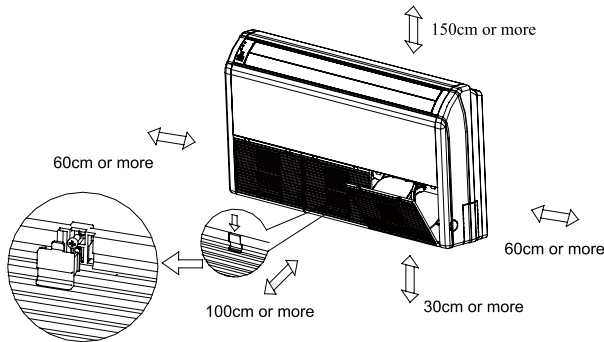

Fig.41
- ① . Such a place where cool air can be distributed throughout the room.
- ② . Such a place where condensation water is easily drained out.
- ③ . Such a place that can handle the weight of indoor unit.
- ④ . Such a place which has easy access for maintenance.
- ⑤ . Such a place where is easy to connect the outdoor unit.
- ⑥ . Such a place which is 1m or more away from other electric appliances such as television, audio device, etc.
- ⑦ . Avoid a location where there is heat source, high humidity or inflammable gas.
- ⑧ . Do not use the unit in the immediate surroundings of a laundry, a bath, a shower or a swimming pool.
- ⑨ . Ensure that the installation conforms to the installation dimension diagram.
- ⑩ . A space around the unit is adequate for ventilation (See Fig.41)
- ① . Press the fixing knob of the return grilles and Loosen fixing bolts (M4.2). It will be opened widely, and then pull it out from the indoor unit.(See Fig.41)